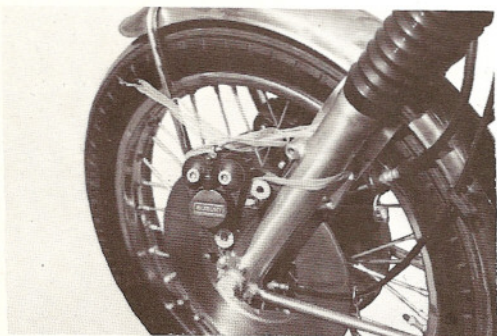

Fig. 4-2-9
- 3) Detach the left caliper with the brake pipe connected and fix it on the front fork by string or hold it unmoved so as not to bend the brake pipe as shown in Fig. 4-2-9.